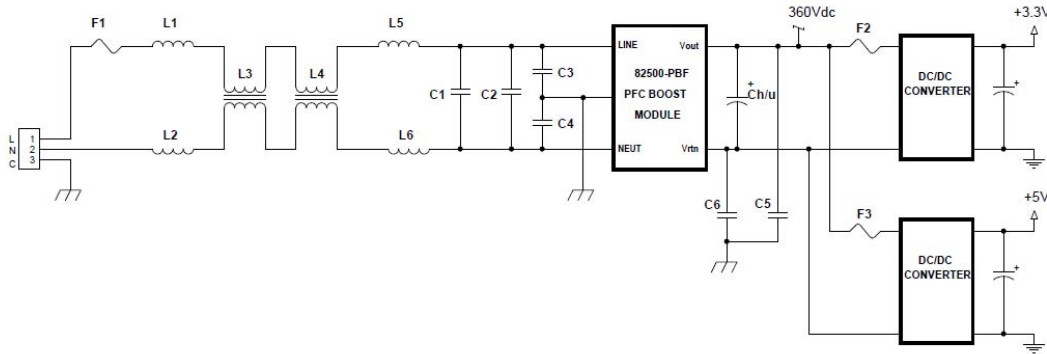

Figure 1. Typical Application Circuit, 3.3V & 5V, 200W Combined Output Power
A schematic of a typical PFC, dual output 3.3V and 5V modular power supply is provided in figure 1. A modular supply of this type is practical for one, two or three outputs and can accommodate any isolated output voltage from 2V to 48V. There are a variety of compatible DC/DC converters available off the shelf
When configured properly, the PFC modular supply depicted in figure 1 will operate from a 115Vrms, single phase, 47Hz – 800Hz input source and will provide approximately 200W combined output power. Provided sufficient output hold-up capacitance (Cout) is incorporated, the supply will comply with all the input power requirements per RTCA/DO-160G, section 16 for the wide variable frequency category A(WF). This includes normal and abnormal operating conditions for AC equipment as well as the A(WF) limits for input harmonic distortion.